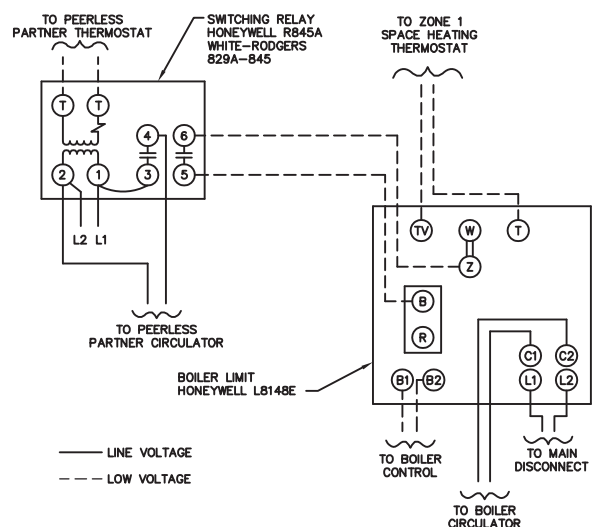

Figure 7: Wiring Diagram – MI/MIH
- a. MI/MIH. For zoning with zone valves or three-way valve, connect zone valve end switch to limit terminals T and TV. For zoning with circulators, refer to Figure 7.